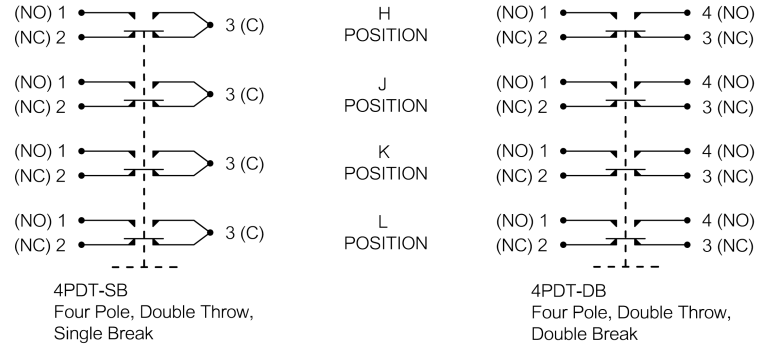

FIGURE 4
- A, B, C, D, F and G identify the lamp circuit terminations (see Figure 4).